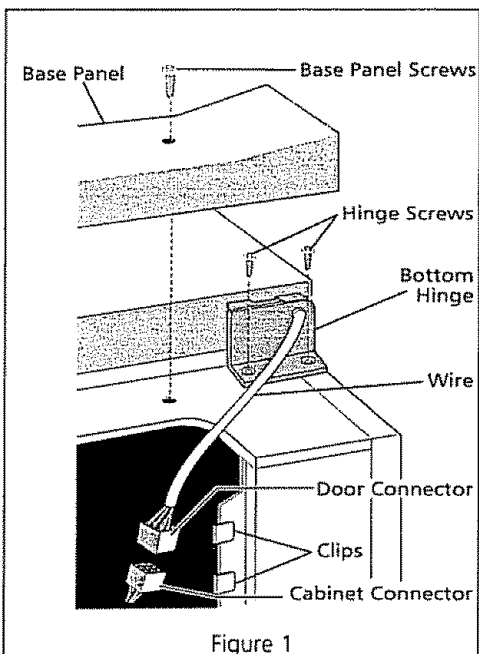

Figure 1
2. Remove the base panel by unscrewing two screws from front of base panel. Remove wire from clips on bottom of cabinet. (Figure 1 below)
3. Unplug connector by holding the cabinet connector in place, and pulling door connector out. (Figure 1 below)
- **On upright models** with a defrost drain (Figure 1), remove the drain plug on the inside floor of the freezer by pulling straight out. To access the external drain tube on models with a base panel, first remove the two screws from the base panel. Locate the drain tube near the left center under the freezer. Place a shallow pan under the drain tube. Defrost water will drain out. Check pan occasionally so water does not overflow. A one half inch garden hose adaptor can be used to drain the freezer directly into a floor drain. If your model is not equipped with an adaptor, one can be purchased at most hardware stores. Replace the drain plug when defrosting and cleaning are completed. If the drain is left open, warm air may enter the freezer.